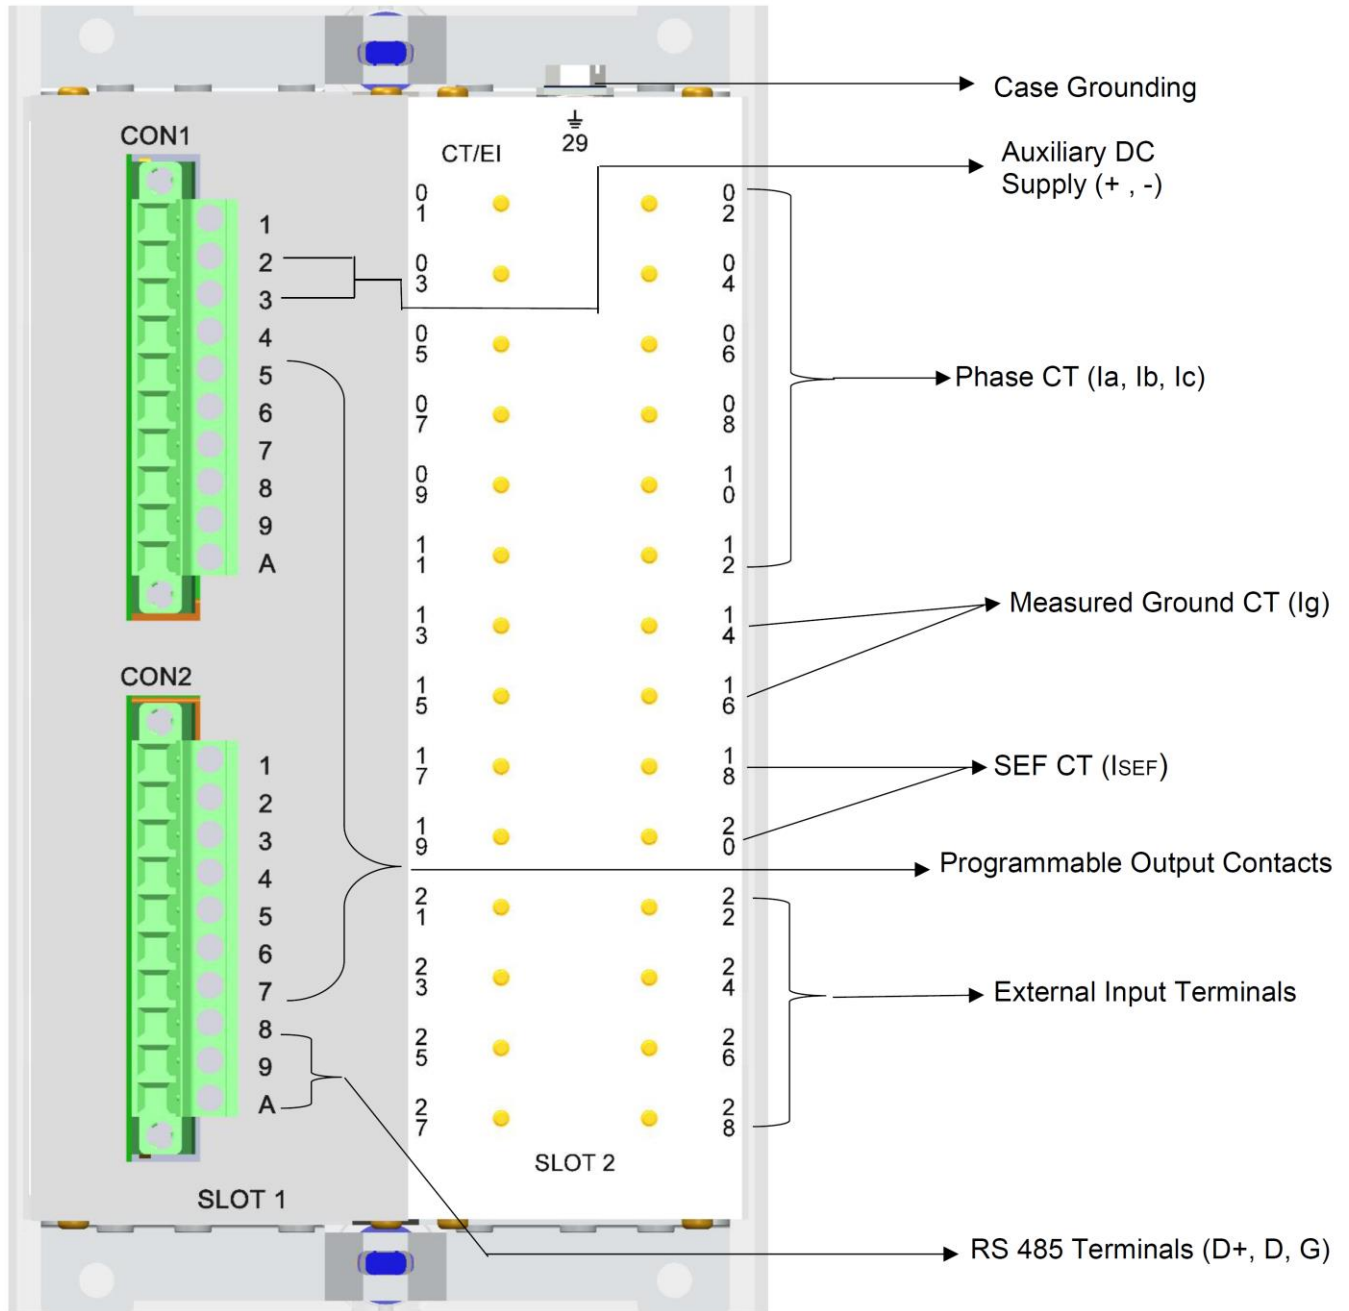

Figure 2: Rear view
1. Connect the power supply to terminal 2, 3 of CON1, shown in Figure 2. The wire used for the power supply wiring shall be at least 18 AWG (1.02 mm²).
2. Ground the F-PRO 116 to the case grounding terminal, as shown in Figure 2.